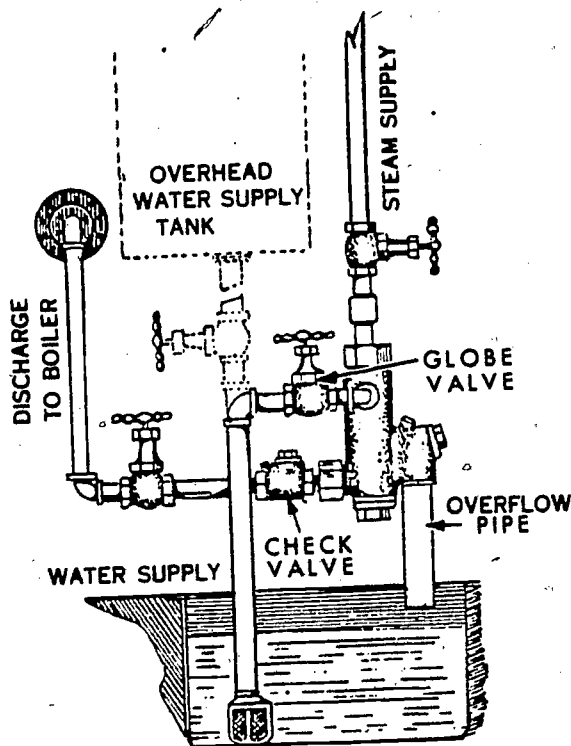
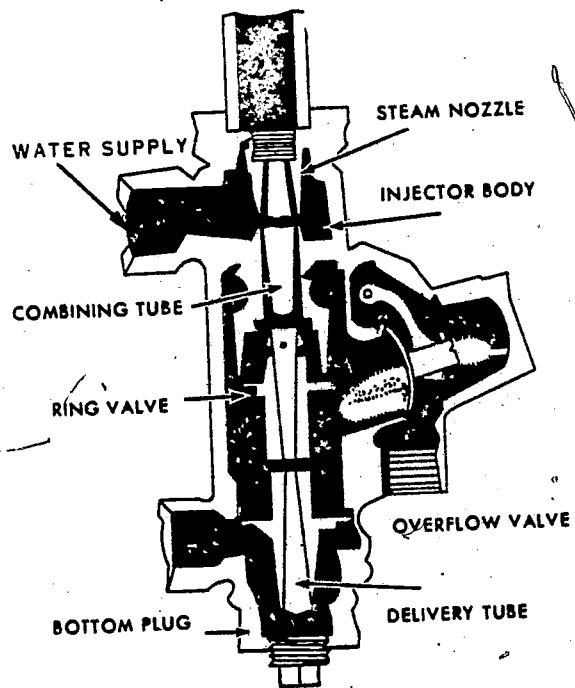

Figure 16. A typical injector installation.
Figure 17. A cutaway of a steam injector.
3. The controls for an injector consist of a steam supply valve, a water supply valve, a discharge valve to the boiler, and a check valve in the discharge line. A typical installation of an injector and the piping is shown in figure 16. The injector shown in figure 17 consists of a steam nozzle, combining tube, delivery tube, ring valve, overflow valve, and injector body.
7. It is necessary to remove the bottom plug, shown in figure 17, to clean the injector. The